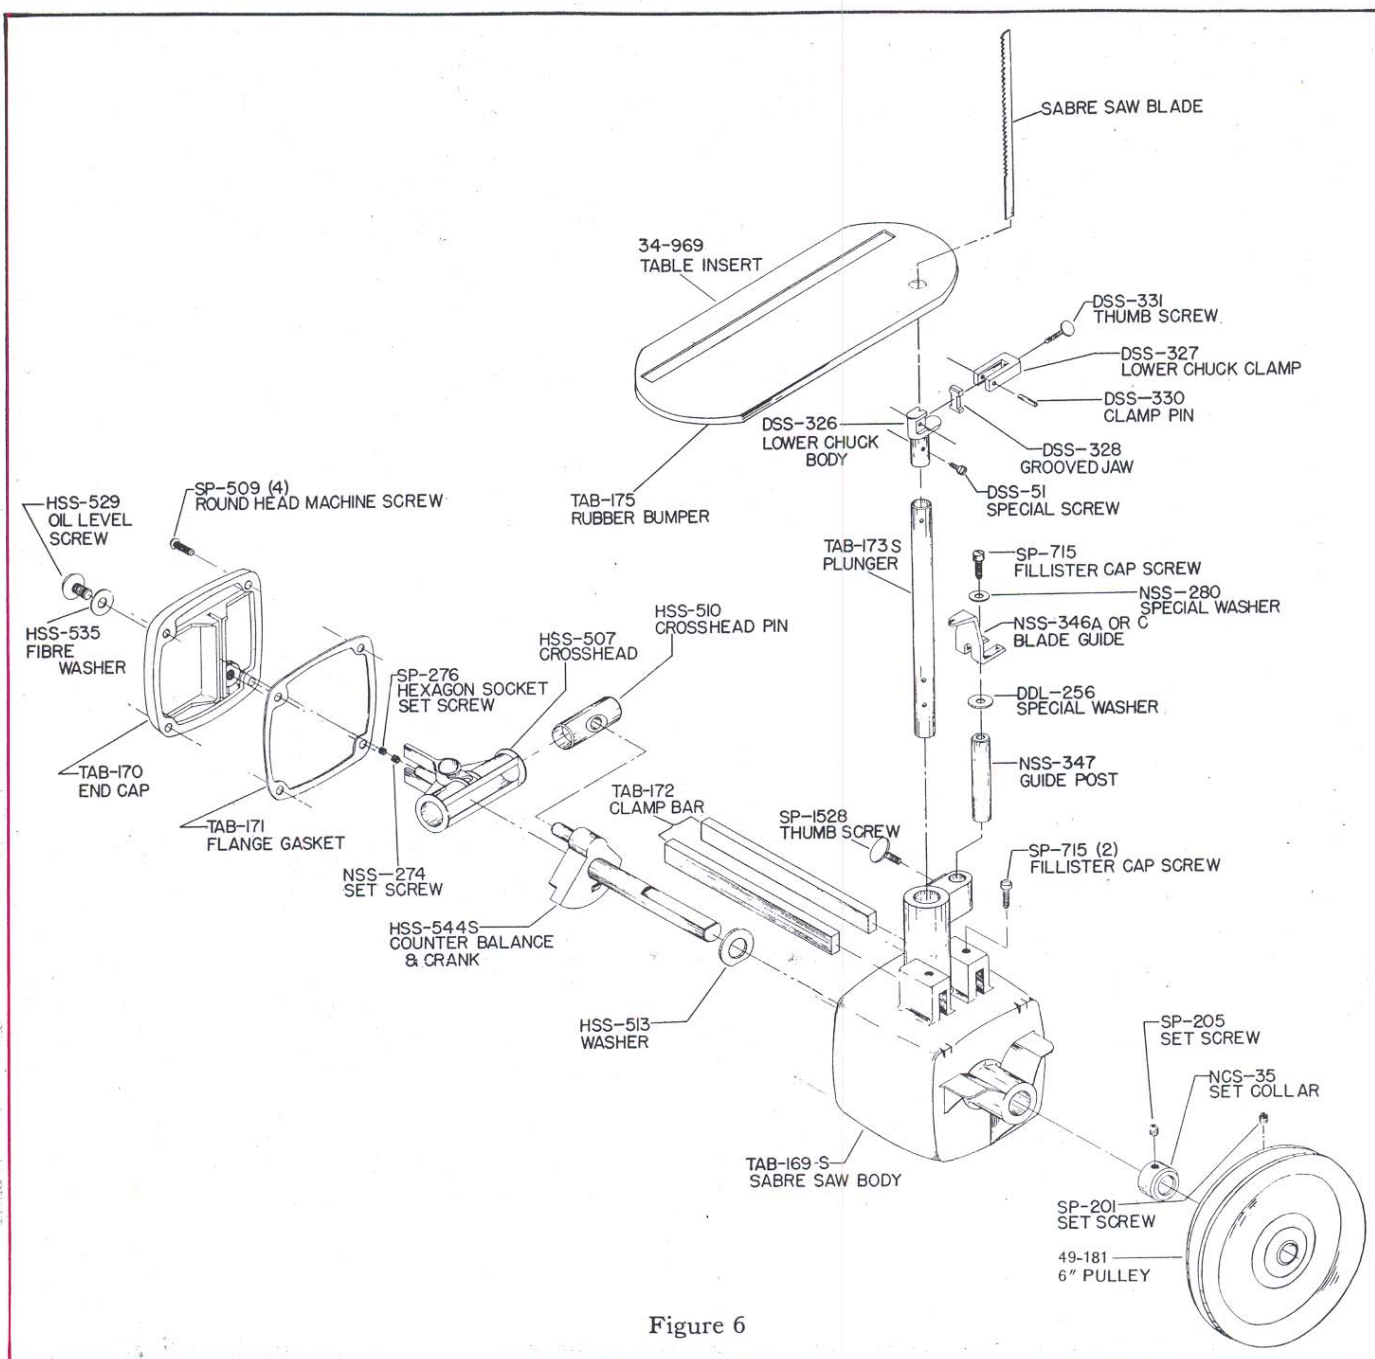

Figure 6
5. Insert the two fillister head screws SP-715 see Figure 6, just start them in the hole, do not screw all the way in.